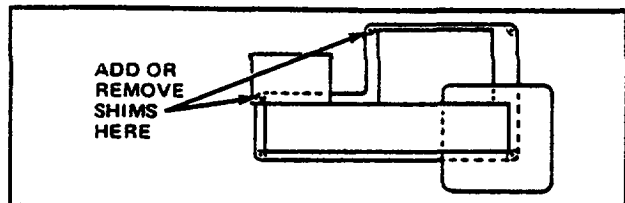

FIG. 2. SHIMMING LOCATION - TOP VIEW.
- (5) Clearance greater than 0.004-inch (0.1 mm) should be corrected by shimming under base pad. Remove shims to increase clearance; add shims to decrease clearance. See Fig. 2.